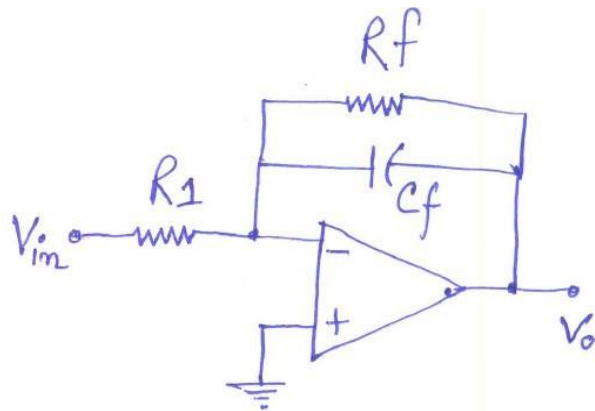

Fig.3.26 Practical op-amp integrator circuit
3.6.4.25 To overcome this problem practical integrator has been developed by connecting one feedback resistance connecting parallel to capacitor as shown in fig.3.26